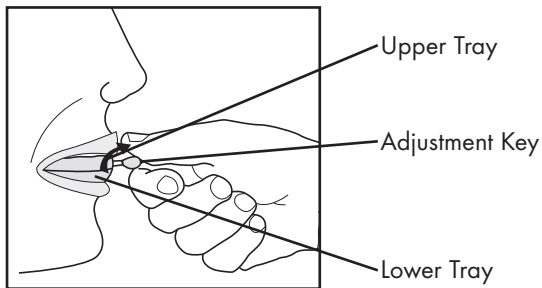

Fig. 23.1
2. Dial the Adjustment Key clockwise to the patient's **maximum mechanical protrusion (MMP)**. The patient will feel a slight stretch in his/her temporalmandibular joints at this point. If the patient doesn't reach this maximum passive protrusion with the hook located in the slot of the lower socket then have the patient place the hook behind the socket and continue to dial the adjustment key until he/she reaches this point. See figure 23.1 on page 23.